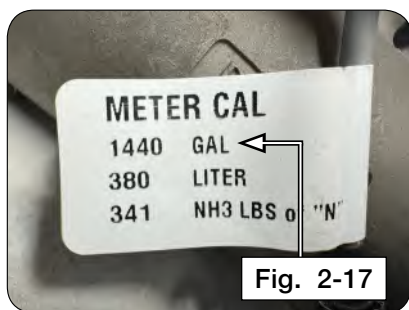

Fig. 2-17
31. For “Flowmeter Calibration”, check the tag on the flowmeter (Fig. 2-17) and enter the “gallons” value. This number is unique to each Flowmeter.